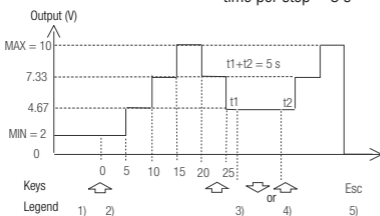

Figure 10 Example of a Step Function Sequence
The interval time per step over the range from 1 second to 60 minutes can be entered after the menu "INT AUT" has been selected, and the step sequence can be stopped by means of the keys  $\uparrow$  (3) and  $\downarrow$  (4) in accordance with Figure 10.